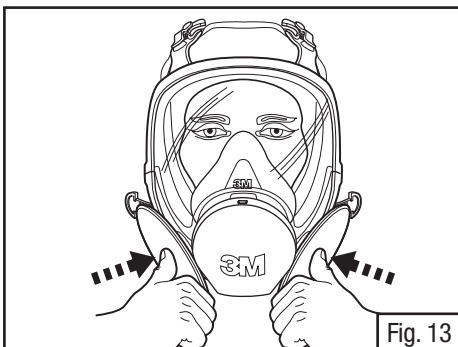

Fig. 13
1. Place your thumbs onto the center portion of the filters, restricting airflow through filters and inhale gently. If you feel the facepiece collapse slightly and pull closer to your face with no leaks between the face and facepiece, a proper seal has been obtained (Fig. 13).